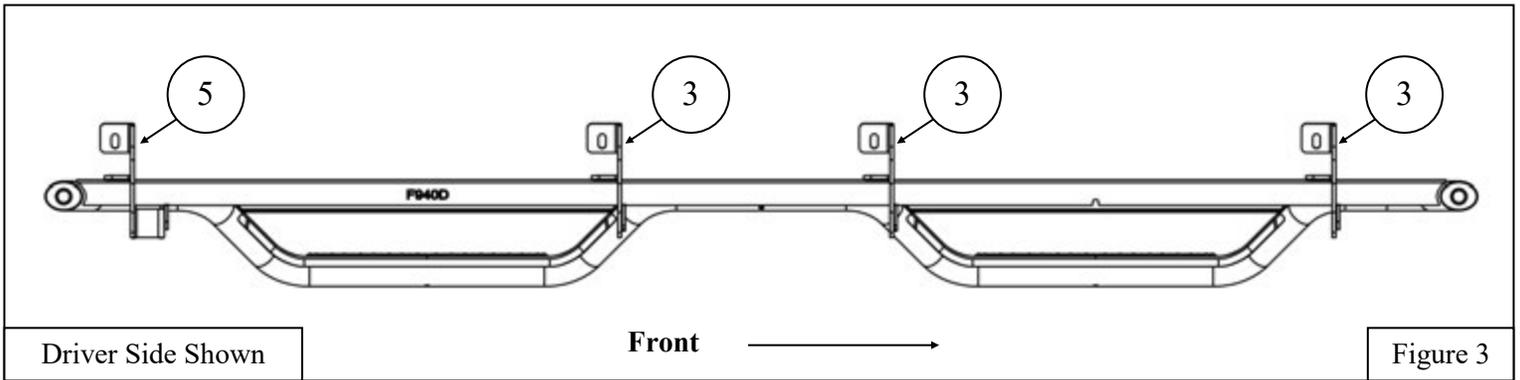

Figure 3
4. Repeat **Step 3** for every other bracket mounting location. See **Figures 3 and 4** for bracket orientation and locations.